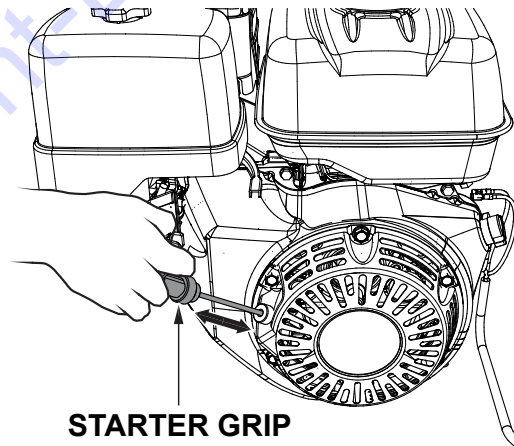

Figure 37. Starter Grip
- Slowly pull the starter grip (Figure 37) until resistance is felt, then pull briskly and smoothly to start the engine. Gently return the starter grip to its original position.